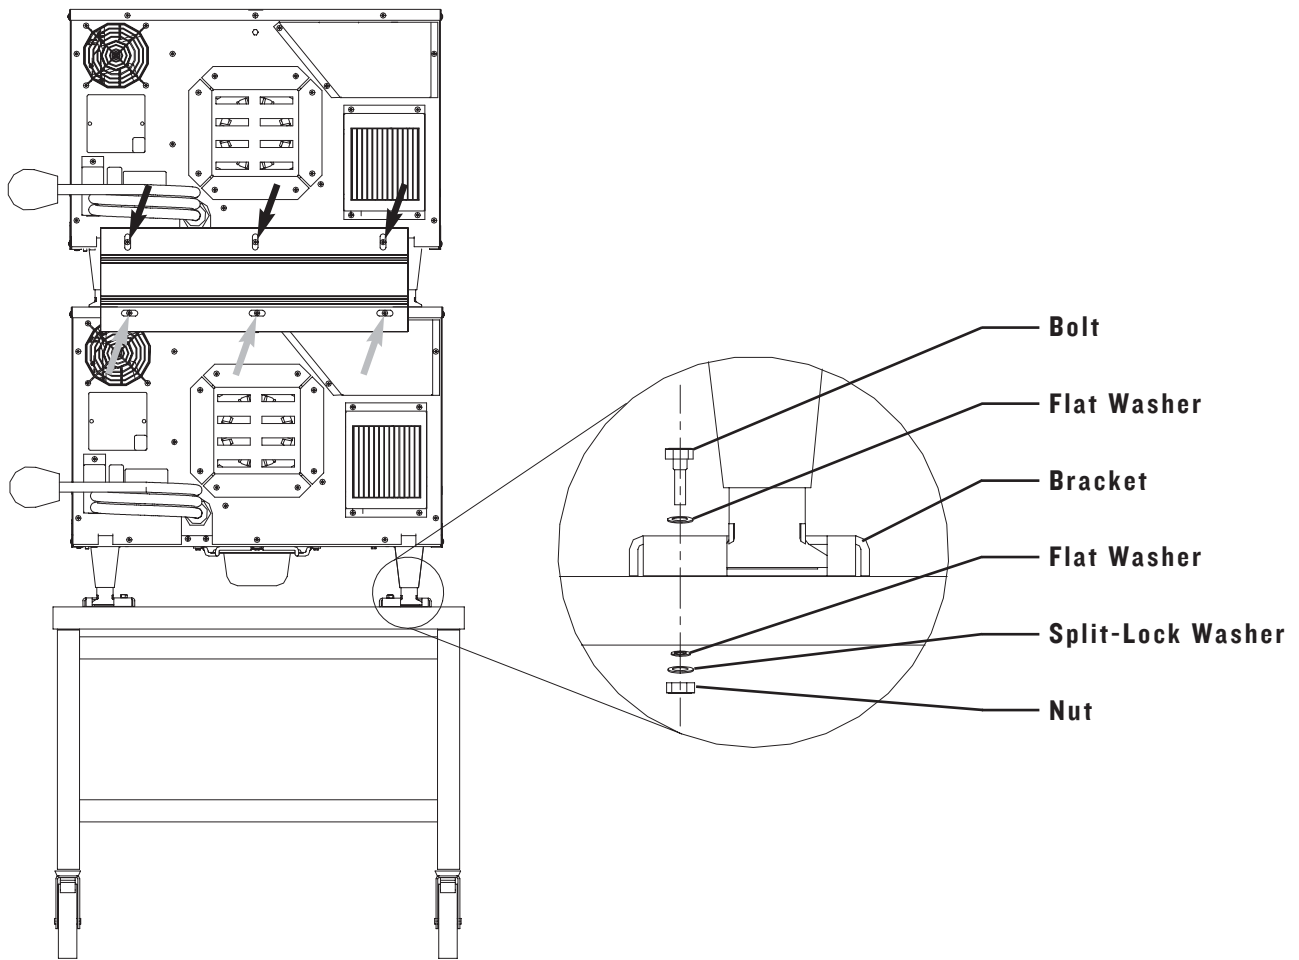

FIGURE 2: Stacked HHB Ovens Secured to Cart
Securing Oven to Cart (Figure 2)
5. Secure each leg by aligning the bracket with the holes on the oven cart and attaching the parts listed in Figure 2.
Double Stacking Ovens (Figure 2)
- a. Remove the screws marked with gray arrows in Figure 2.
Be sure to orient the bracket as shown in Figure 2, above.
6. Remove the screws from the oven that will be placed on top, as marked with black arrows in Figure 2.